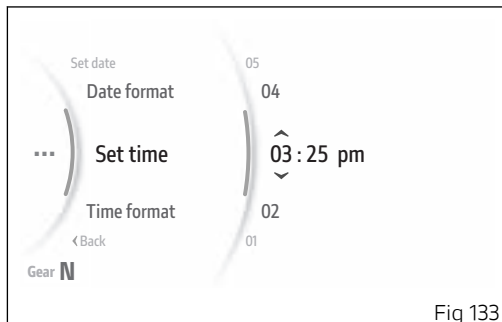

Fig 133
- From the Interactive Menu, use buttons (1) and (2) to select the item "Setting menu" and press ENTER (3).
- Select the "Date and time" item and press ENTER (3).
- Select the "Set time" item and press ENTER (3).
The hour number becomes selectable and is displayed with two arrows placed above and below it; the available values are also displayed above and below the selected parameter (Fig 133). Use buttons (1) and (2) to scroll and select the desired value. Press ENTER (3) to confirm and move on to the number of the minutes.